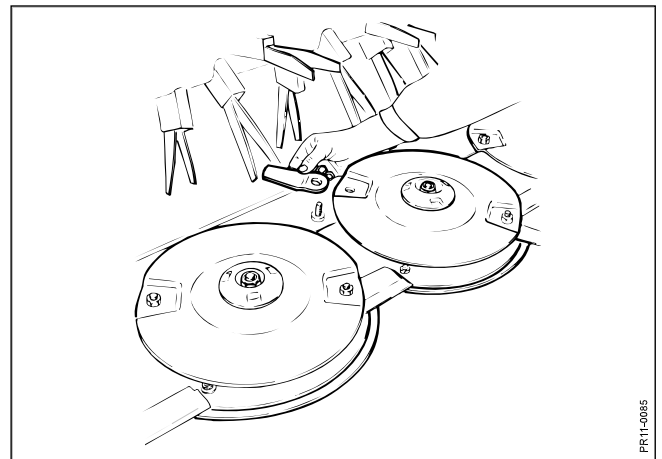

Fig. 5-10
- Fig. 5-10** To obtain a satisfactory harvesting it is important that blades and shearbars are intact and sharp. Replacement of blades is made by dismounting the blade bolt and pulling it out from beneath the disc. This is easily done when the blade is in the front position so that the bolt can fall out through the hole in the stone protector. Remove the old blade and mount the new one together with the blade bolt. The blades can be used on both sides by moving the blades from one disc to another with opposite direction of rotation.